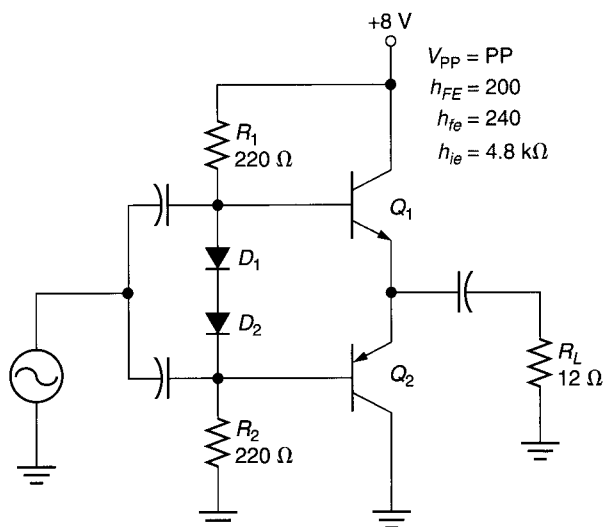

FIGURE 11.56
33. Determine the values of  $V_{CEQ}$ ,  $V_{B(Q1)}$ , and  $V_{B(Q2)}$  for the class AB amplifier in Figure 11.56.
35. Calculate the maximum efficiency of the class AB amplifier in Figure 11.56.
44. Calculate the maximum allowable input power for the amplifier in Figure 11.56.